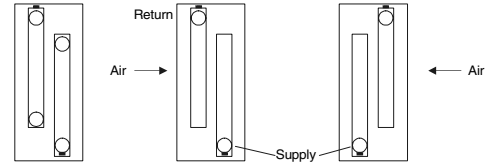

Figure 1 - Coil Connection Diagram
2. Check the coil hand designation to insure that it matches the system. Water and glycol coils are generally plumbed with the supply connection located on the bottom of the leaving air-side of the coil and the return connection at the top of the entering air-side of the coil (Figure 1 - Coil Connection Diagram). This arrangement provides counter flow heat exchange and positive coil drainage. If a universal coil is supplied, cap off the two unused connections.
3. Isolate the coil from the rest of the system by closing the valves on both the supply and return lines (gate valves in Figure 1 - Horizontal Airflow).